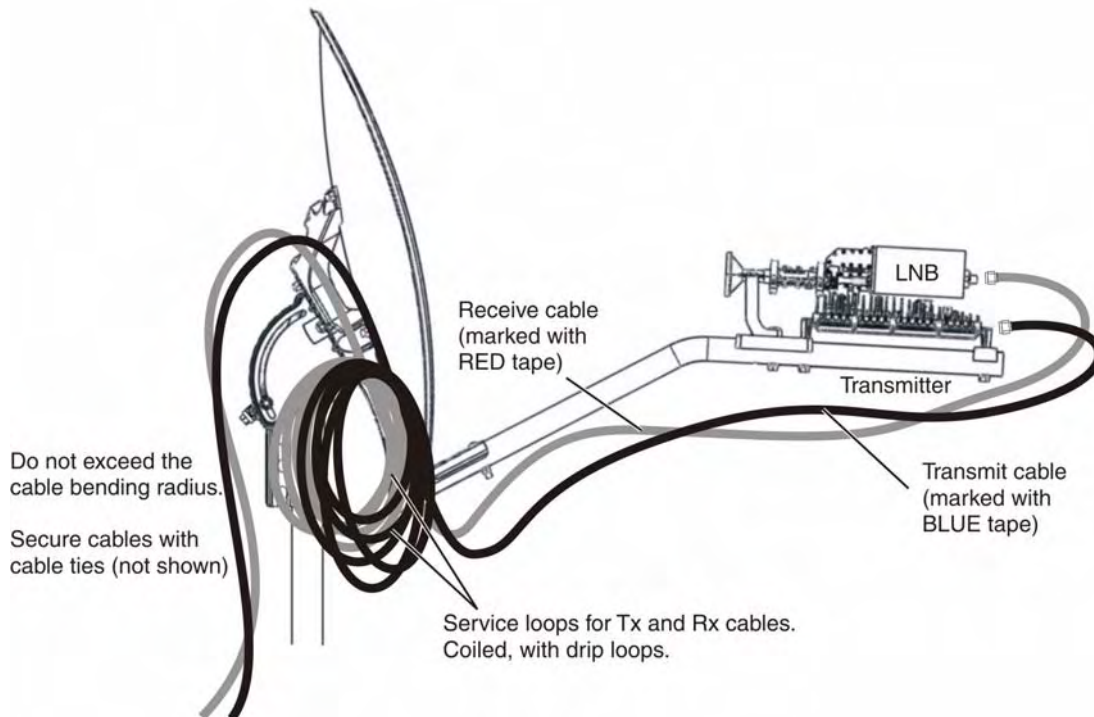

Figure 27: Transmit and receive cable configurations
1. Route the Tx cable (marked with blue electrical tape) over the Az/EI mount assembly, down behind the reflector, and along the feed support arm to the rear of the transmitter, in a configuration similar to that shown in Figure 27.
4. Route the Rx cable (marked with red electrical tape) over the Az/EI mount assembly, down behind the reflector, and along the feed support arm to the LNB, in a configuration similar to that shown in Figure 27 above.